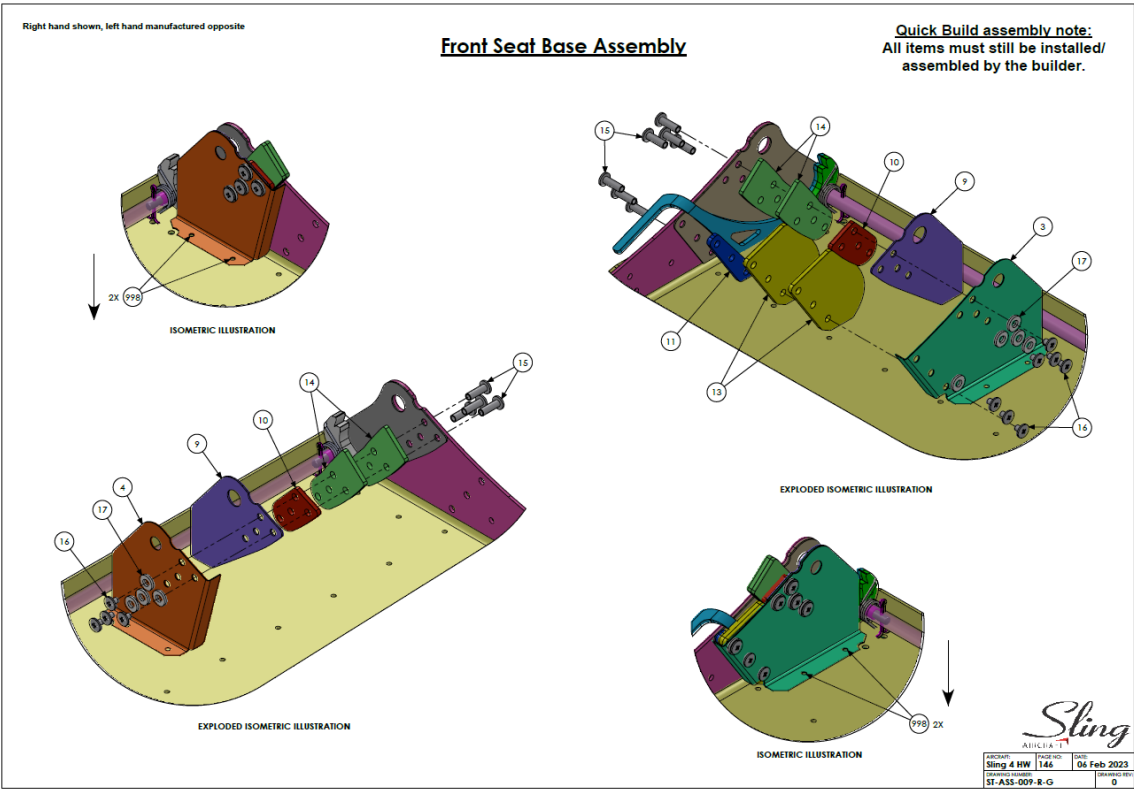

Figure 2: Obsolete Assembly Instructions (Detailed)
- Step 2: Using a Phillips screwdriver, remove the screws (Item 15 & 16) on both sides of the seat as shown in Figure 2.
- Step 3: Also remove items 10 (qty 2), 11 (qty 1), 13 (qty 2), and 14 (qty 4), as shown in Figure 2.